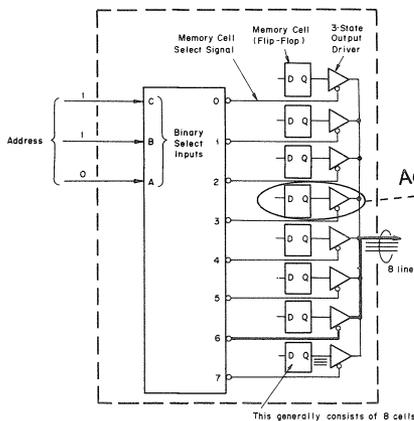

Fig. 27 Selecting A Memory Cell
Fig. 27 shows how a memory cell is selected sharing one signal data line. When address number is 110 (B), the cell No. 6 (D) is selected and its data is put out on the data line.